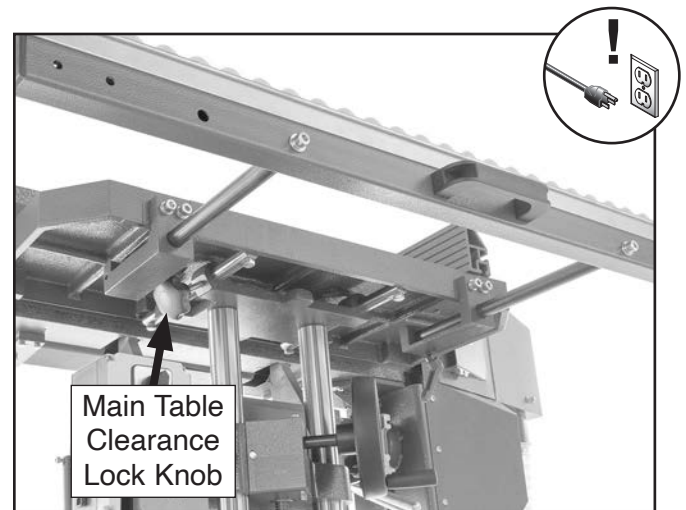

Figure 49. Location of main table clearance lock knob.
2. Loosen main table clearance lock knob (see **Figure 49**).